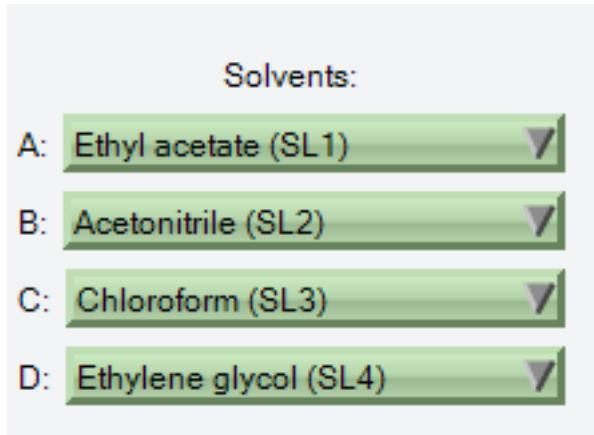

Figure 3-6: Complete Solvent Field
6. Repeat steps 1-5 for each solvent. A typical solvent region with four solvents selected is presented in Figure 3-6.
The  button to the left of the chromatogram can be pressed to present the list of solvents (Figure 3-6) and a smaller chromatogram. When the solvent list is present, a larger arrow will appear which can be used to return to the full-scale chromatogram.